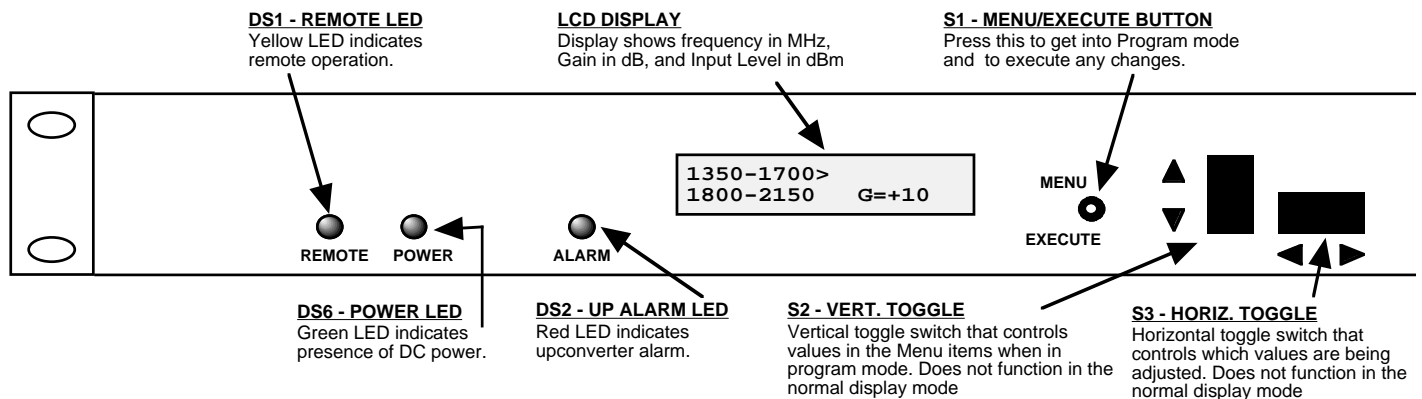

FIGURE 2.2 2083-1721 Front Panel Controls and Indicators
Figure 2.2 shows the front panel controls and indicators.
7. Be sure DS6 (green, DC Power) is on and DS2 (red, Alarm) is off (Figure 2.2).
Alarm indications appear on the LEDs (see Figure 2.2).